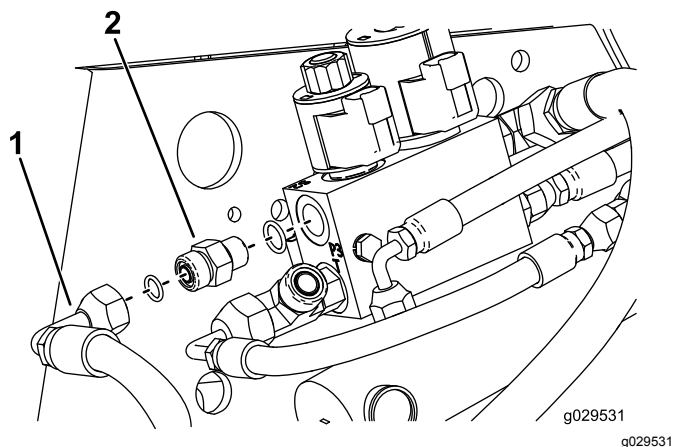

Figure 19
7. Thread the hydraulic valve fitting into the opening of the valve (Figure 19).
10. Secure the hose fitting to the straight fitting (Figure 19).